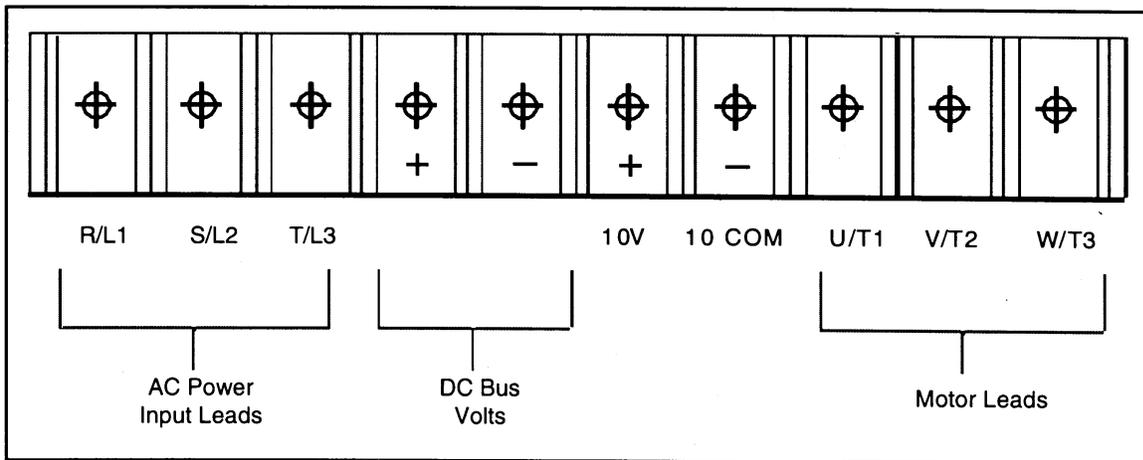

Figure 2.2 – DC Bus Voltage Terminals (1 to 5 HP @ 460V)
- ii. Use a voltmeter to measure the DC bus potential at the DC bus power terminals shown in figure 2.2.